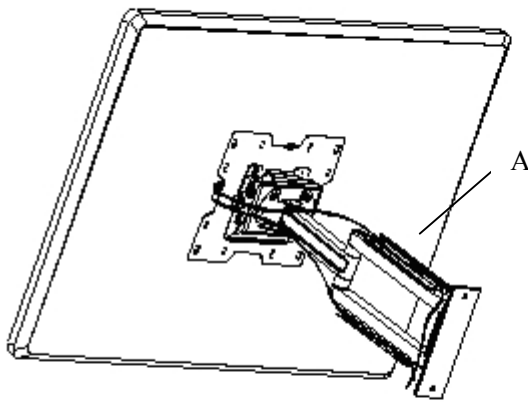
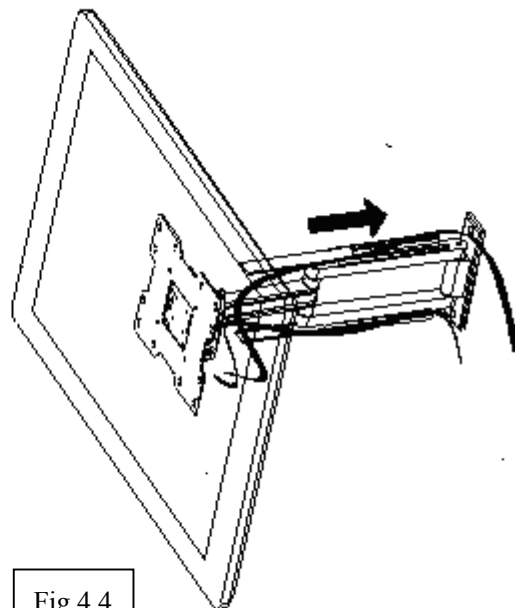

Fig 4.3
Fig 4.4
Make sure the cable and cord have enough slack to allow full movement of the wall mount arm. Layout the cable and cord into the arm slots of the wall mount (A) as shown in figure 4.3. We recommend the power cord through one arm slot and the signal cable(s) through another arm slot, in order to avoid the interference. Put back the sliding cord cover onto the wall mount arm as show in figure 4.4. The display panel may have to turn to the side for better access for sliding back the cord covers.